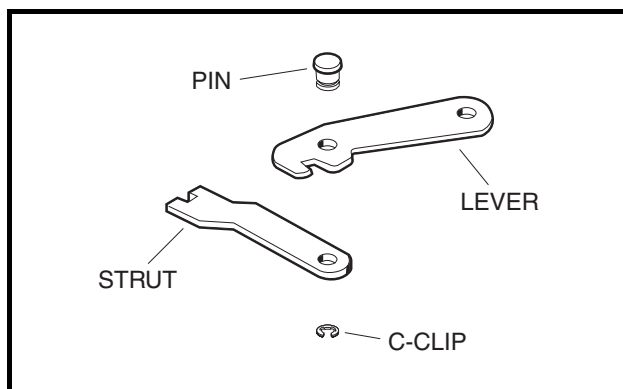

Figure 6-8 Park Brake Lever and Strut
- 9.3. Disassemble the lever and strut by removing the C-clip and pin (**Figure 6-8, Page 6-10**).